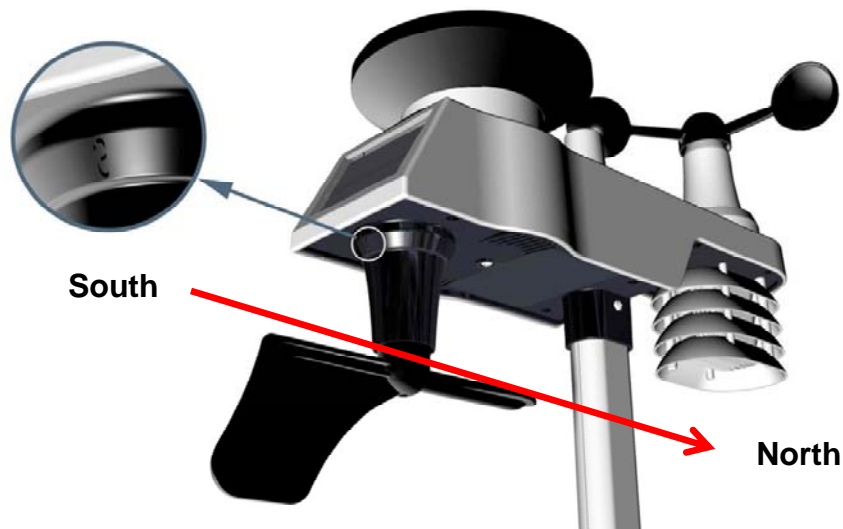

Figure 12
Step 1: There is a “S” indicator on the wind vane that indicates South, as shown in Figure 12. Check the wind directions with compass and Align this “S” marker in the direction of South.